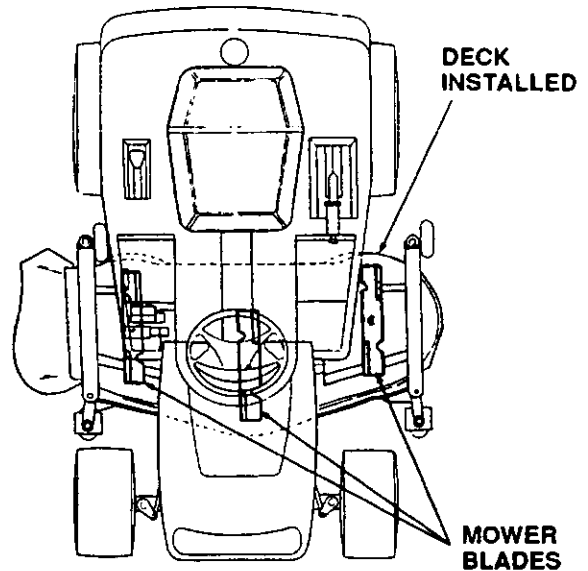

Figure 45
2. Position the mower blades so the ends of each blade point to the front and to the rear of the tractor. (Refer to Figure 45.)